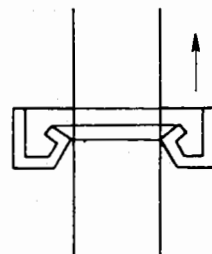

Fig. 93 Installing the oil seal
- 1) Fit the bracket shaft oil seal in the direction as shown in the diagram below. (Fig. 93) Be sure not to damage the lip portion in this case.